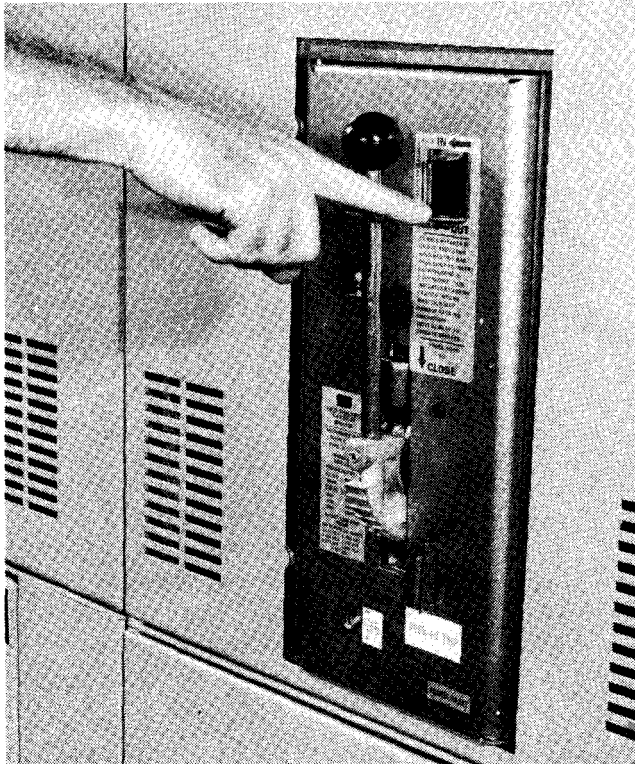

Figure 31. — Lowering Interlock Slide
1. Depress trip bar and lower the interlock slide to expose racking screw. While the interlock slide is in this position, the breaker is "trip-free" and cannot be closed. (See figures 31 and 32.)